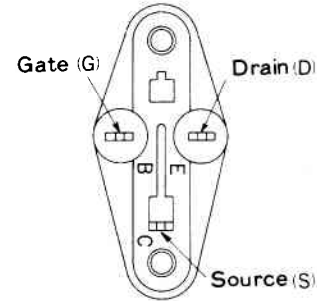

Fig. 5
- (1) When the stabilized power circuit and the peripheral parts of Q701 and Q702 (D706, R752, R753 and their peripheral parts) are replaced, the adjustment of the input/output DC may drift, so be sure to check the input/output/ DC voltage.
- (2) Since E grade of hFE is specially classified into E1 - E3 for Q701 and Q702, replace them matching the proper grade with the proper channel.
- (3) Since the socket for transistor use is used for the socket of the POWER MOS FET, polarity is indicated as B, C, E. Match it to the indications shown in Fig. 5 when replacing the POWER MOS FET and when checking.